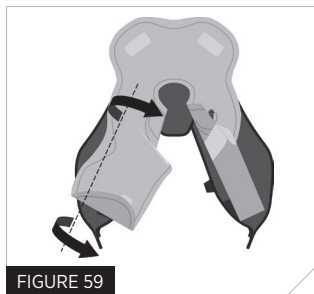

FIGURE 59
6. Fold outside edge in towards the centre of the bladder along fold line 6 (Fig 59).